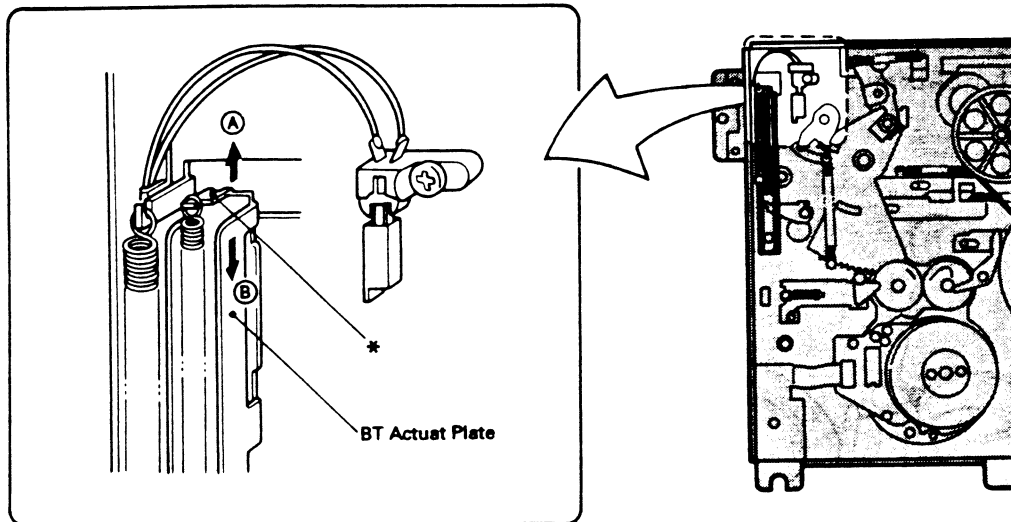

Fig. 1
1. ADJUSTMENT OF THE BT TORQUE (Fig. 1)